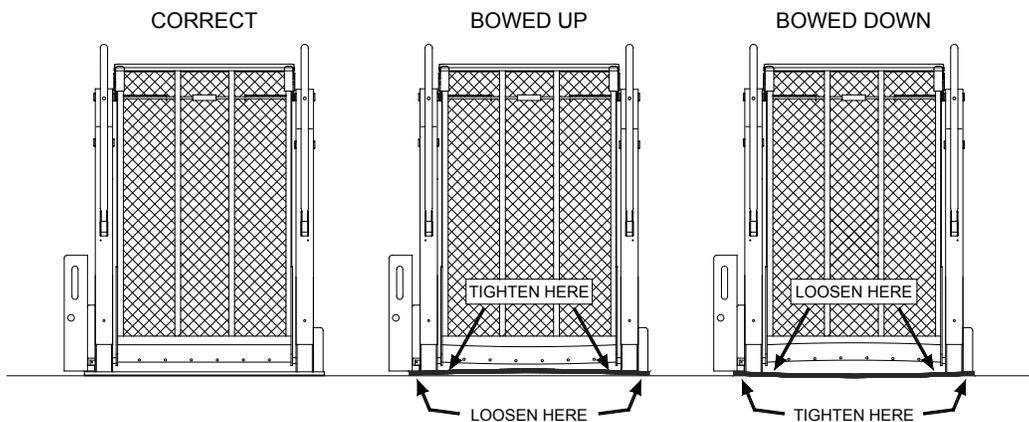

FIGURE 2-1: LIFT MOUNTING EXAMPLES
- ◆ Refer to **Figures 2-1** and **2-5**. Improper torquing sequence of baseplate bolts may result in a warped or bowed baseplate, which can cause platform to move erratically.